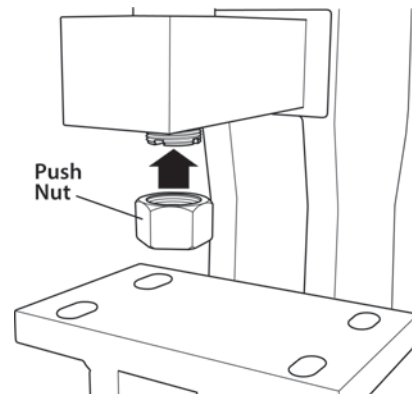

Figure 4
Refer to Figures 4 - 9:
1. Screw Push Nut onto the punch ram threads (see Figure 4). Tighten using the punch nut wrench or adjustable wrench.